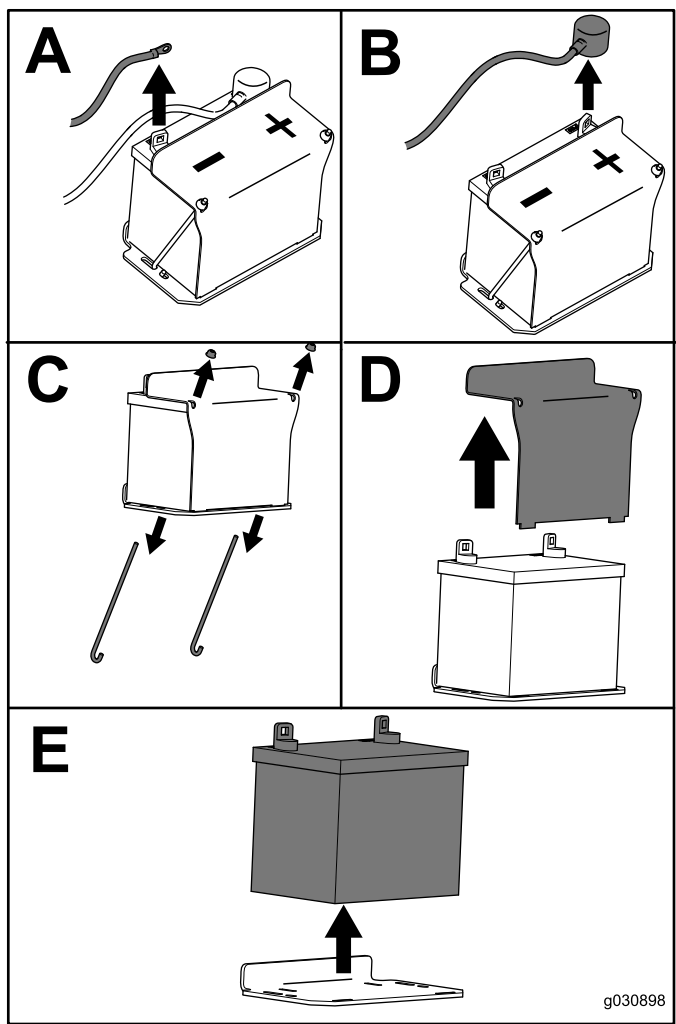

Figure 61
3. Remove the battery as shown in Figure 61.